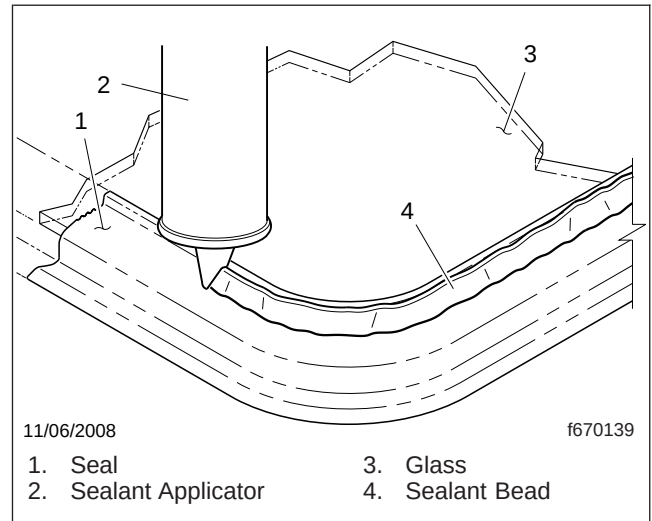

Fig. 5, Applying Sealant/Adhesive to Windshield Seal
16. Apply a triangular bead of SikaTack®-Ultrafast or SikaTack®-ASAP urethane adhesive/sealant to the rubber seal. Both are hot-applied single-part urethanes that come in standard caulking tubes and must be preheated to 170 to 180°F (75 to 80°C) before dispensing. Cut the applicator tip to produce a triangular bead approximately 9/16-inch (14-mm) tall and 1/2-inch (12-mm) wide. Apply a consistent bead of adhesive to the rubber seal; see Fig. 5. A cordless electric caulking gun is recommended for best results. Expect to heat cartridges for 1 hour in a Sika cartridge oven. Otherwise, verify adhesive temperature before dispensing it.